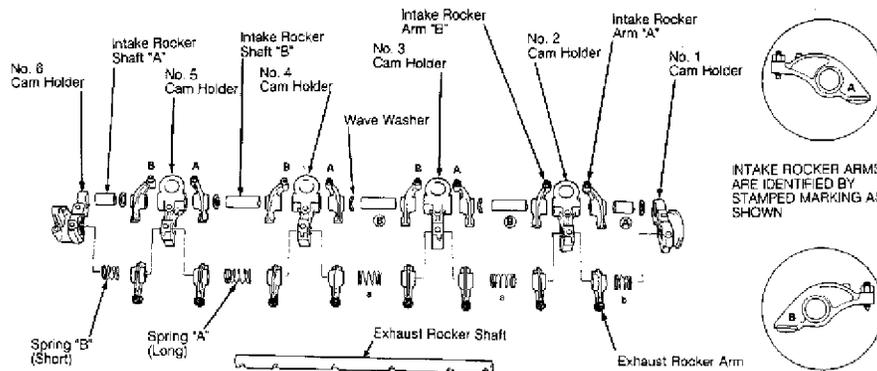

Fig. 10: Identifying Rocker Arm Shaft Components
2) Position camshaft in cylinder head with keyway facing upward (No.1 cylinder at TDC). Install camshaft seal. Apply gasket sealer to mating surfaces of cam holders No. 1 and No. 6. See Fig. 10. Ensure valve adjusting screw lock nuts and adjusting screws are backed off before installation.